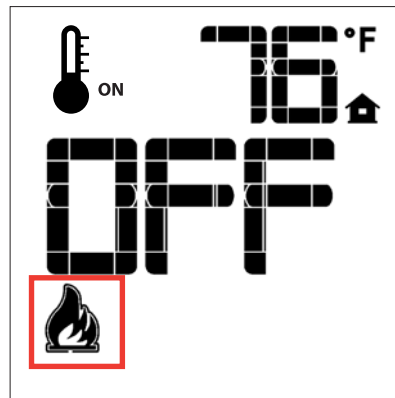

Fig. 9A: Flame Off
**Proflame GT:** with the system on, and the flame present in the appliance, pressing the Down Arrow Key will turn off the flame while the remote system is still on. If the Up Arrow Key is pressed while in the above described state the flame will come on. ( Fig. 9A & 9D)
**Proflame GTM & GTMF:** has six (6) flame levels. With the system on, and the flame level at the maximum in the appliance, pressing the Down Arrow Key once will reduce the flame height by one step until the flame is turned off.